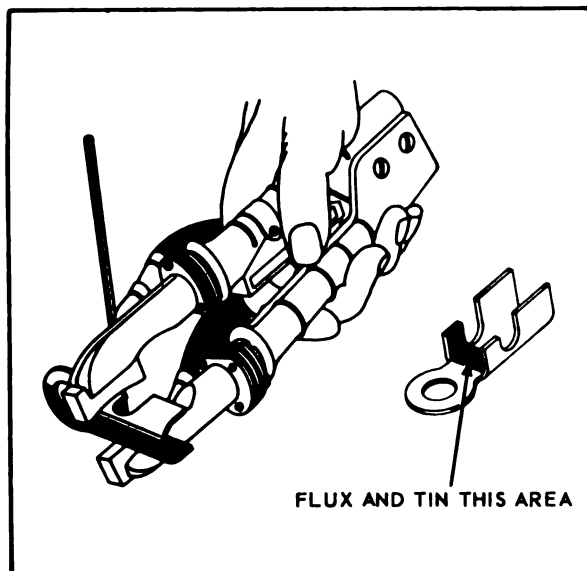

Figure 7-10. Resistance Tinning of Terminal
- Using a torch or the resistance heating pliers, melt a thin coat of silver solder onto inside of wire grip. See figure 7-10 for use of resistance heating pliers in this operation.
a. Grasp terminal and wire assembly, prepared in accordance with 7-20, at wire grip area. The resistance heating pliers are to be in the position shown in figure 7-10.